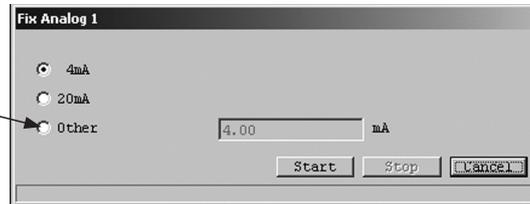

Fig.117
- ① Click the "Diag/Service (T)" menu, and then select and click "Fix Analog 1" from the "Loop Test" drop-down list.
- ② The following window will be displayed (Fig. 117). Select the simulated output value and click the "Start" button. To pick another current value to output, select "Other" and click the "Start" button after inputting the analog value.
Click the "Cancel" button to return to the window shown in Fig. 117.
- ⑥ Clicking the "OK" button would return the interface to the window shown in Fig. 117, so click the "Cancel" button to exit "Fix Analog".